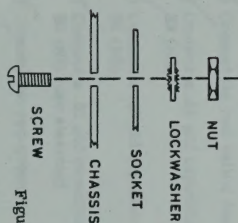

Figure 1
- (1) Lockwashers are used under all nuts except where a solder lug is used.
- (2) Lay out the chassis top plate as shown in Pictorial 1. The two socket holes should be to your left and the larger socket hole nearest you. The chassis is now upside down.
- (3) Mount the 7-pin miniature socket at A as shown, with the wide spacing to your right. See Figure 1. Use 3-48 hardware.